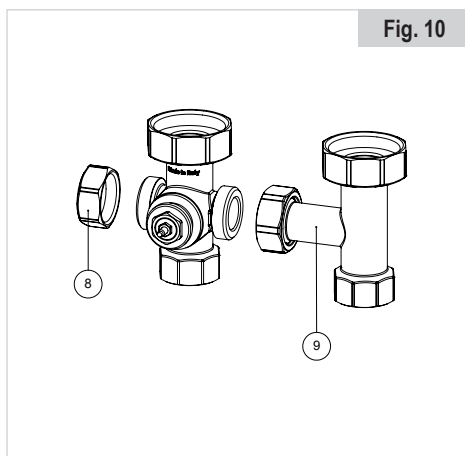

Fig. 10
- Invert the position of the female plug with relative flat gasket (8) and of the return fitting (9) (see **Fig. 10**).